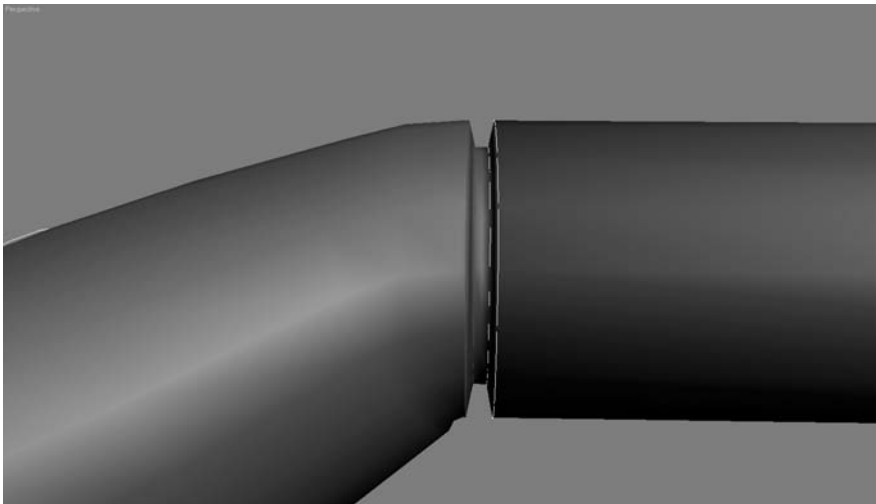

Figure 5.112
5. Select the inside shape on the loft, and make four more copies in a row close to where the bar curves (Figure 5.112). Select the two inside copies and scale them both down 20 percent. This will create the groove toward the center of the handlebars.